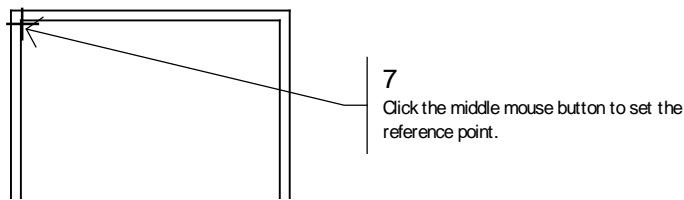

Figure 3.46: Setting a reference point
7. Move the cursor to the top left corner of the interior wall, as shown in Figure 3.46 and click the middle mouse button to set the reference point. You are prompted to *Select center of window.*